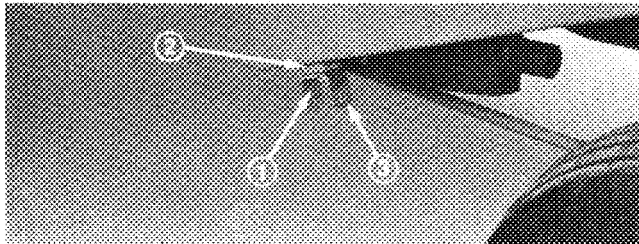

Figure 4
3. Remove capscrew and flangenut securing front engine support to frame. Secure Belly Shield hanger and engine support to frame with 3/8 x 1-1/4 capscrew and flangenut. Repeat procedure on opposite side of machine (Fig. 4). Discard 3/8" x 1" long capscrew removed ( gas units only).